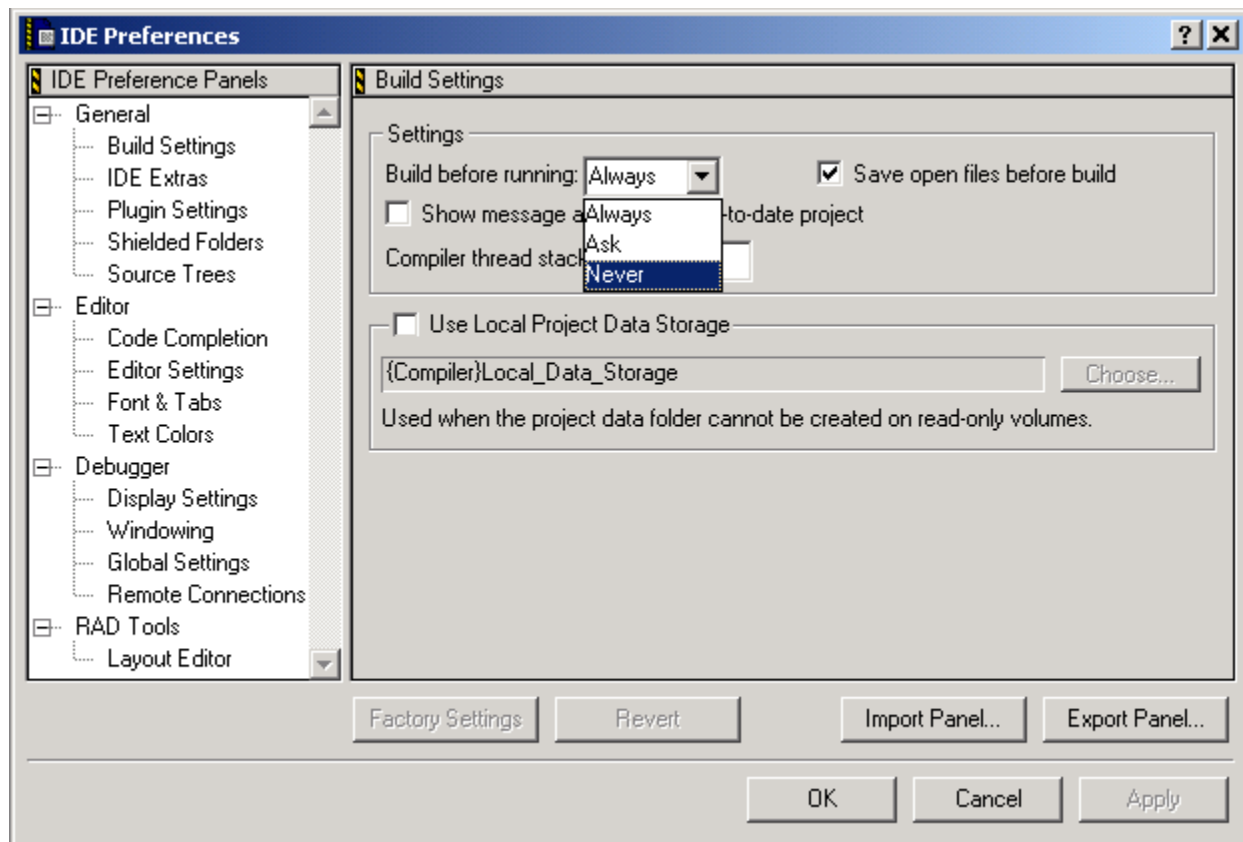

Figure 2-6. Editing Preferences
- Under *Build Settings/Build before running*, select *Never*; see Figure 2-6